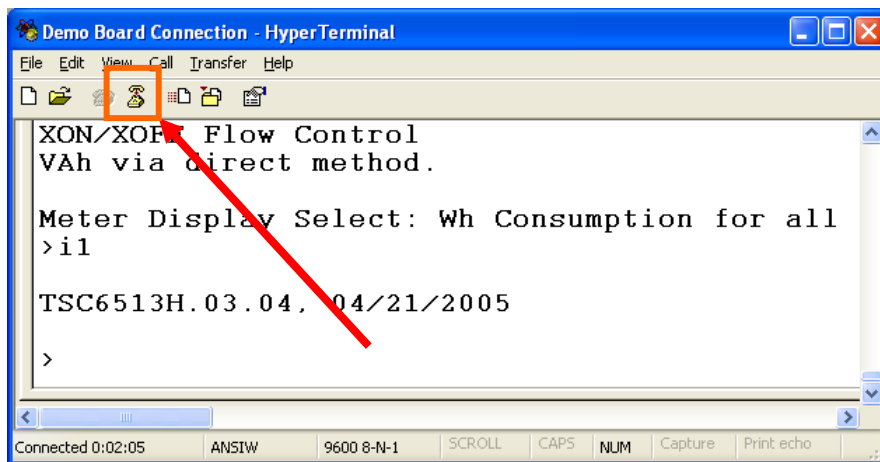

Figure 1-2: HyperTerminal Sample Window with Disconnect Button (Arrow)
**Port parameters can only be adjusted when the connection is not active. The disconnect button, as shown in Figure 1-2 must be clicked in order to disconnect the port.**